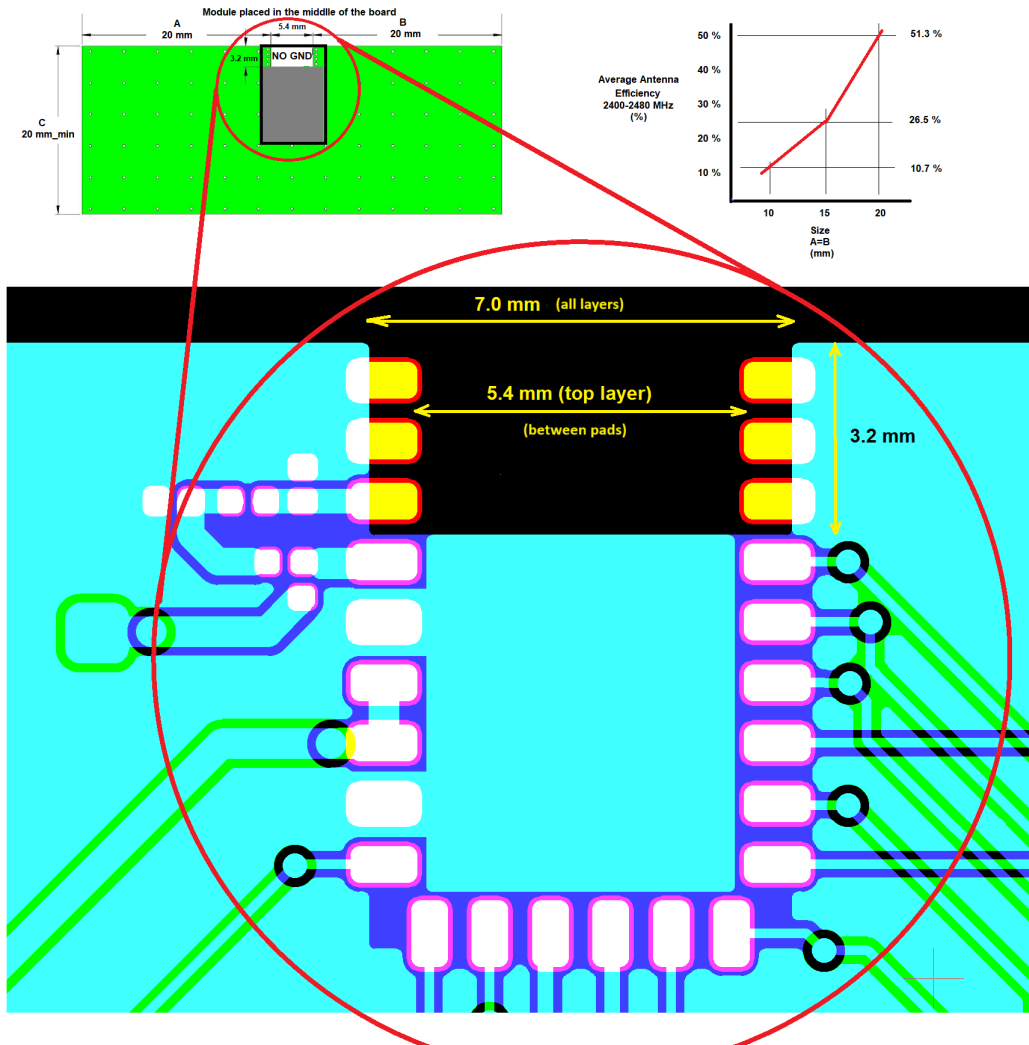

Figure 9-2. Module Layout Guidelines
- Have a solid ground plane and ground vias under the module apart from underneath the antenna section for stable system and thermal dissipation. Underneath the antenna section, there should be no routing at all for all the main board layers. The route keep-out area should be 7.0 x 3.2mm on all layers; refer to Figure 9-2. If this route keep-out area is reduced or any components are placed within this area on the bottom layer, then the antenna efficiency is reduced.
It is critical that the RF section be laid out correctly to make sure optimal module performance. A poor layout can cause low-output power and sensitivity degradation. Figure 9-2 shows the RF placement and routing of the CC2340R5MODA module with the 2.4-GHz integrated antenna.
- Dimensions A, B & C in Figure 9-2 should be at least 20mm for optimal antenna efficiency. These dimensions can be reduced for compact layout designs but then the antenna efficiency will be reduced. With A and B dimensions at 20mm, the antenna efficiency will be around 50%. If A and B are reduced to 15mm; then the expected antenna efficiency will be around 25%. If A and B are reduced to 10mm; then the expected antenna efficiency will be around 10%. It is not recommended to have A or B dimensions less than 10mm.
- It is not recommended to have A or B dimensions less than 10mm in Figure 9-2